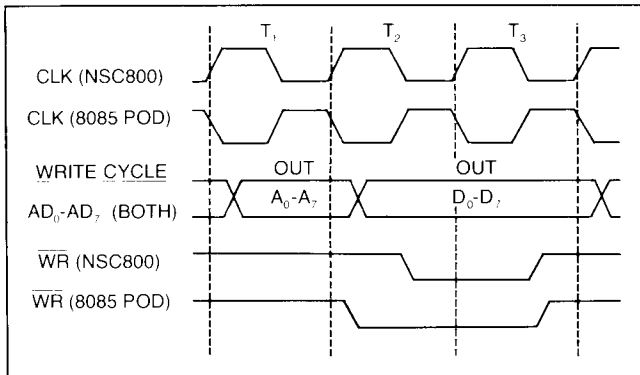
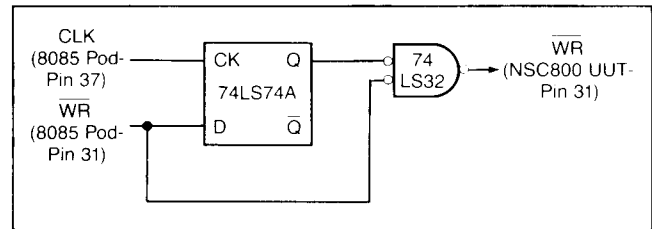

Figure 2. Timing differences between NSC800 μ P and 8085 pod signals.
Figure 3. A Circuit for Adapting the 8085 pod \overline{WR} signal to an NSC800 UUT.
The circuitry required for an adapter will depend on the requirements of the UUT involved. For example, if your NSC800 UUT does not use a particular μP line, any circuitry required to adapt that line to the 8085 pod will not be necessary. As you read through the example, you should refer to the timing diagram of Figure 2. Refer also to the schematic diagrams of Figures 3, 4, and 5.
Both processors generate a single-phase clock output signal. A quick comparison of the clock signals (shown in Figure 2) for the pod and the NSC800 shows that the 8085 pod CLK output signal must be inverted for use on the UUT. This will allow the 8085 pod bus signals to be synchronized with those on the NSC800 UUT. If the CLK signal is not used on the UUT, no inverter is necessary.
Read (RD) and Write (\overline{WR}) Control Signals. The \overline{RD} control signal of the NSC800 is nearly identical to that of the 8085 pod. However, Figure 2 shows that the \overline{WR} control signals of the two processors are different. The \overline{WR} pulse of the NSC800 begins one-half of a clock period (T-state) later than the \overline{WR} Pulse of the 8085 pod. The trailing edge of each write pulse occurs at the same point in the cycle. The leading edge of the NSC800 \overline{WR} pulse occurs when the data on the bus is guaranteed to be valid; this is not true of the 8085 pod \overline{WR} Pulse.
The \overline{WR} pulse of the 8085 pod can be adjusted to begin at almost the same point as the \overline{WR} pulse of the NSC800. Note from the NSC800 timing diagram that the NSC800 \overline{WR} pulse has a duration of about one T-state. Thus a rising-edge-triggered D flip-flop can be used to delay the start of the 8085 pod \overline{WR} pulse by one-half T-state. The CLK output of the 8085 pod is used to clock the flip-flop. The circuit necessary for this function is shown in Figure 3 below.
Note that connecting the flip-flop between the 8085 pod and the NSC800 UUT cancels the pod's ability to check for drivability errors on the \overline{WR} control line. For this reason, you should only use the circuitry of Figure 3 if the UUT requires it.